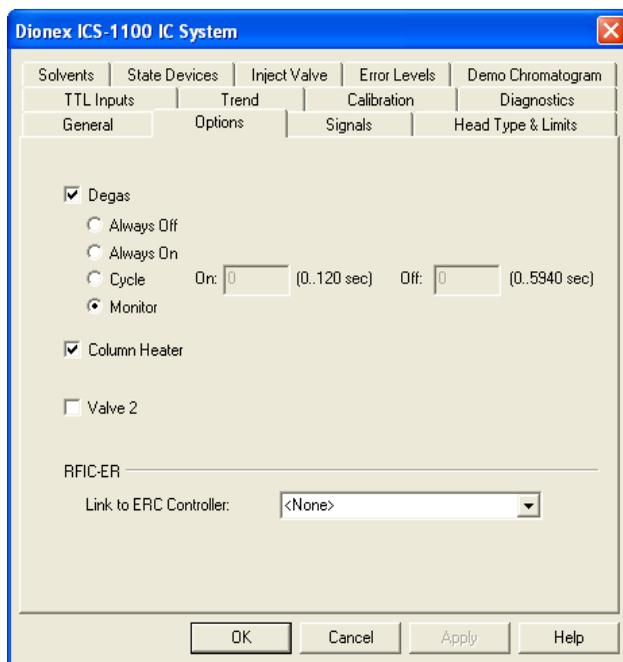

Figure 4-1. Dionex ICS-1100 Server Configuration Properties: Options
2. Select the **Options** tab (see Figure 4-1).